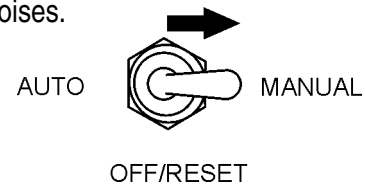

Figure 61. Auto-Off/Reset-Manual Switch
5. Place the Auto-Off/Reset-Manual switch in the **"Manual"** position to start the engine (Figure 61). Once the engine starts, let the engine run for 1-2 minutes. Listen for any abnormal noises.